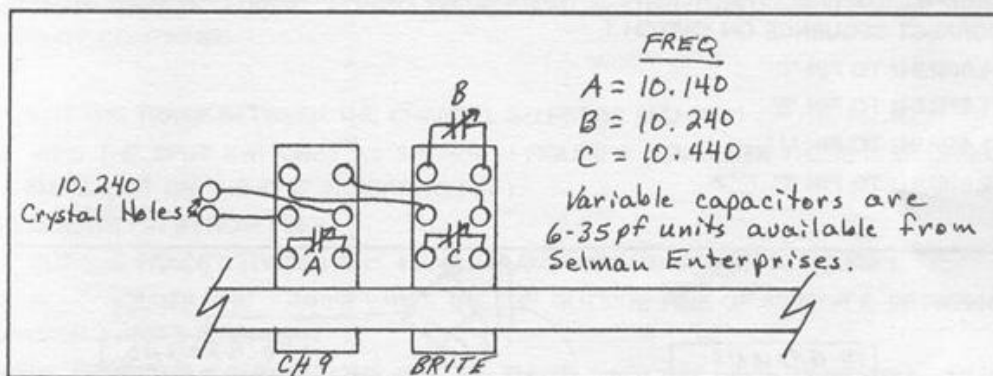

FIGURE 4. AR44/25GTL
10. SOLDER IN THE CRYSTALS AND TRIMMERS AS ILLUSTRATED IN FIGURE 4.